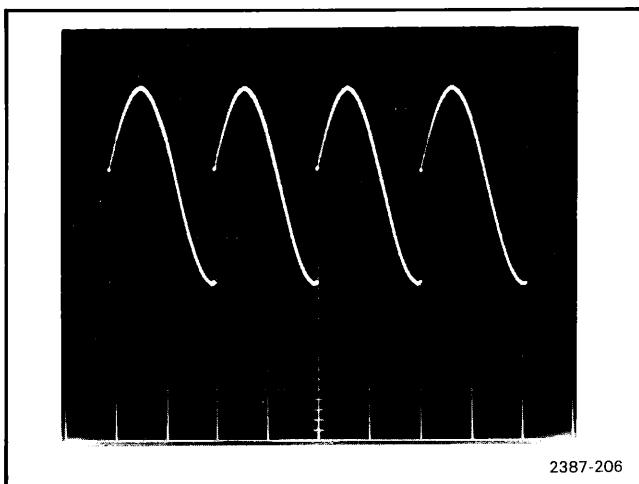

Figure 2-6. XYZ monitor display of four 512-point records of a 1.5 kHz sine wave.
13. The XYZ monitor will display four identical waveforms, as shown in Figure 2-6. Notice that all waveforms start at the same trigger point. All four records are displayed successively on one line, starting with record zero.
14. If the display is clipped on the top or bottom of the waveform, adjust the plug-in Position control or decrease the output amplitude of the generator as required. Press ARM to acquire and display the new data. Repeat this step until the display is similar to Figure 2-6.